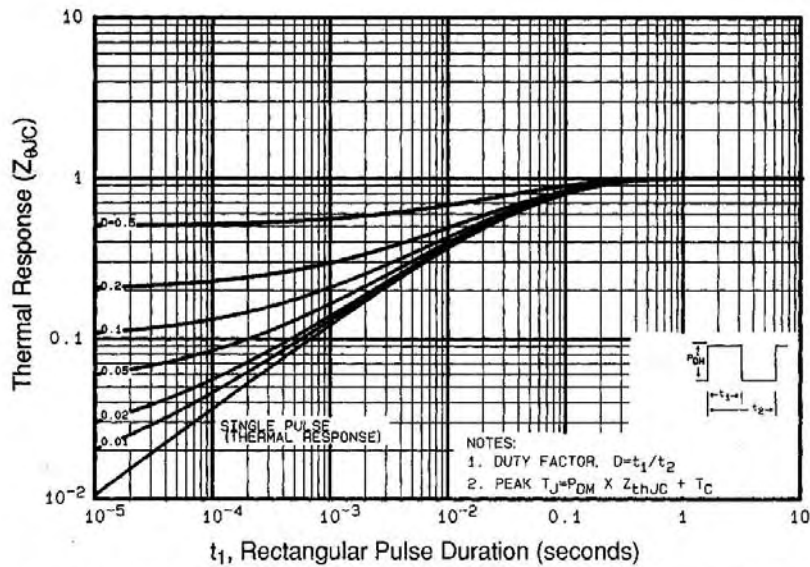

Fig 11. Maximum Effective Transient Thermal Impedance, Junction-to-Case
- ① Repetitive rating; pulse width limited by max. junction temperature (See Figure 11)
- ② V_{DD}=25V, starting T_J=25°C, L=191μH